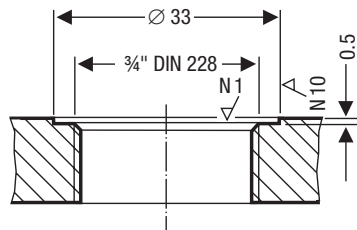

Fig. 4
1. Check seating surfaces of threads or flange provided on vessel or boiler standpipe, **Fig. 4**.
- The seating surface of the threads and flanges provided on the vessel or boiler standpipe must be accurately machined, **Fig. 4**.